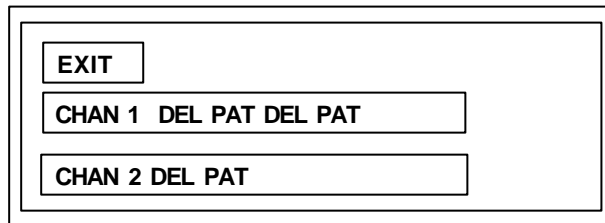

Figure 27. The Glue Mode Screen
1. At the level-2 menu, press the "GLUE MODE" button. The glue mode screen displays (Figure 27).